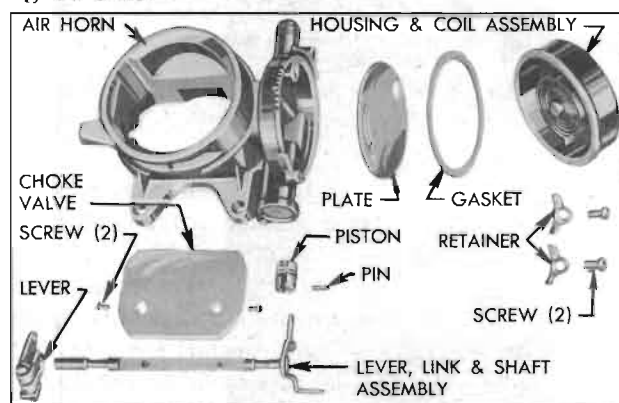

Figure 3-29—Air Horn and Climatic Control—Disassembled
4. Remove thermostatic housing and coil assembly, gasket, and baffle plate from air horn. See figure 3-29.
5. Remove choke valve. Rotate shaft to disengage piston from its cylinder. Remove choke shaft and lever assembly with piston attached. Remove piston pin and piston from link. See figure 3-29.